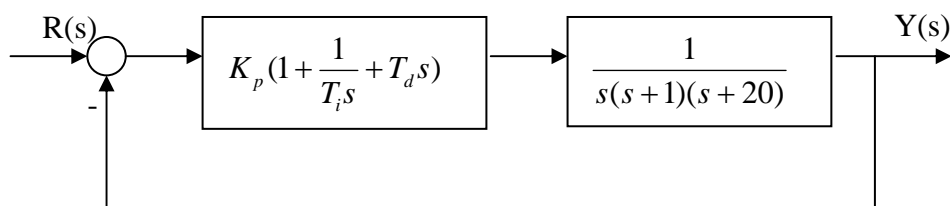

Figure 12.2
- 12.2 Consider the control system as shown in Figure 12.2. Using a Ziegler-Nichols tuning rule, determine the values of K_p , T_i and T_d . Obtain the unit step response of the designed system. Make fine adjustments of parameters K_p , T_i and T_d such that the maximum overshoot in the unit step response be approximately 15%.